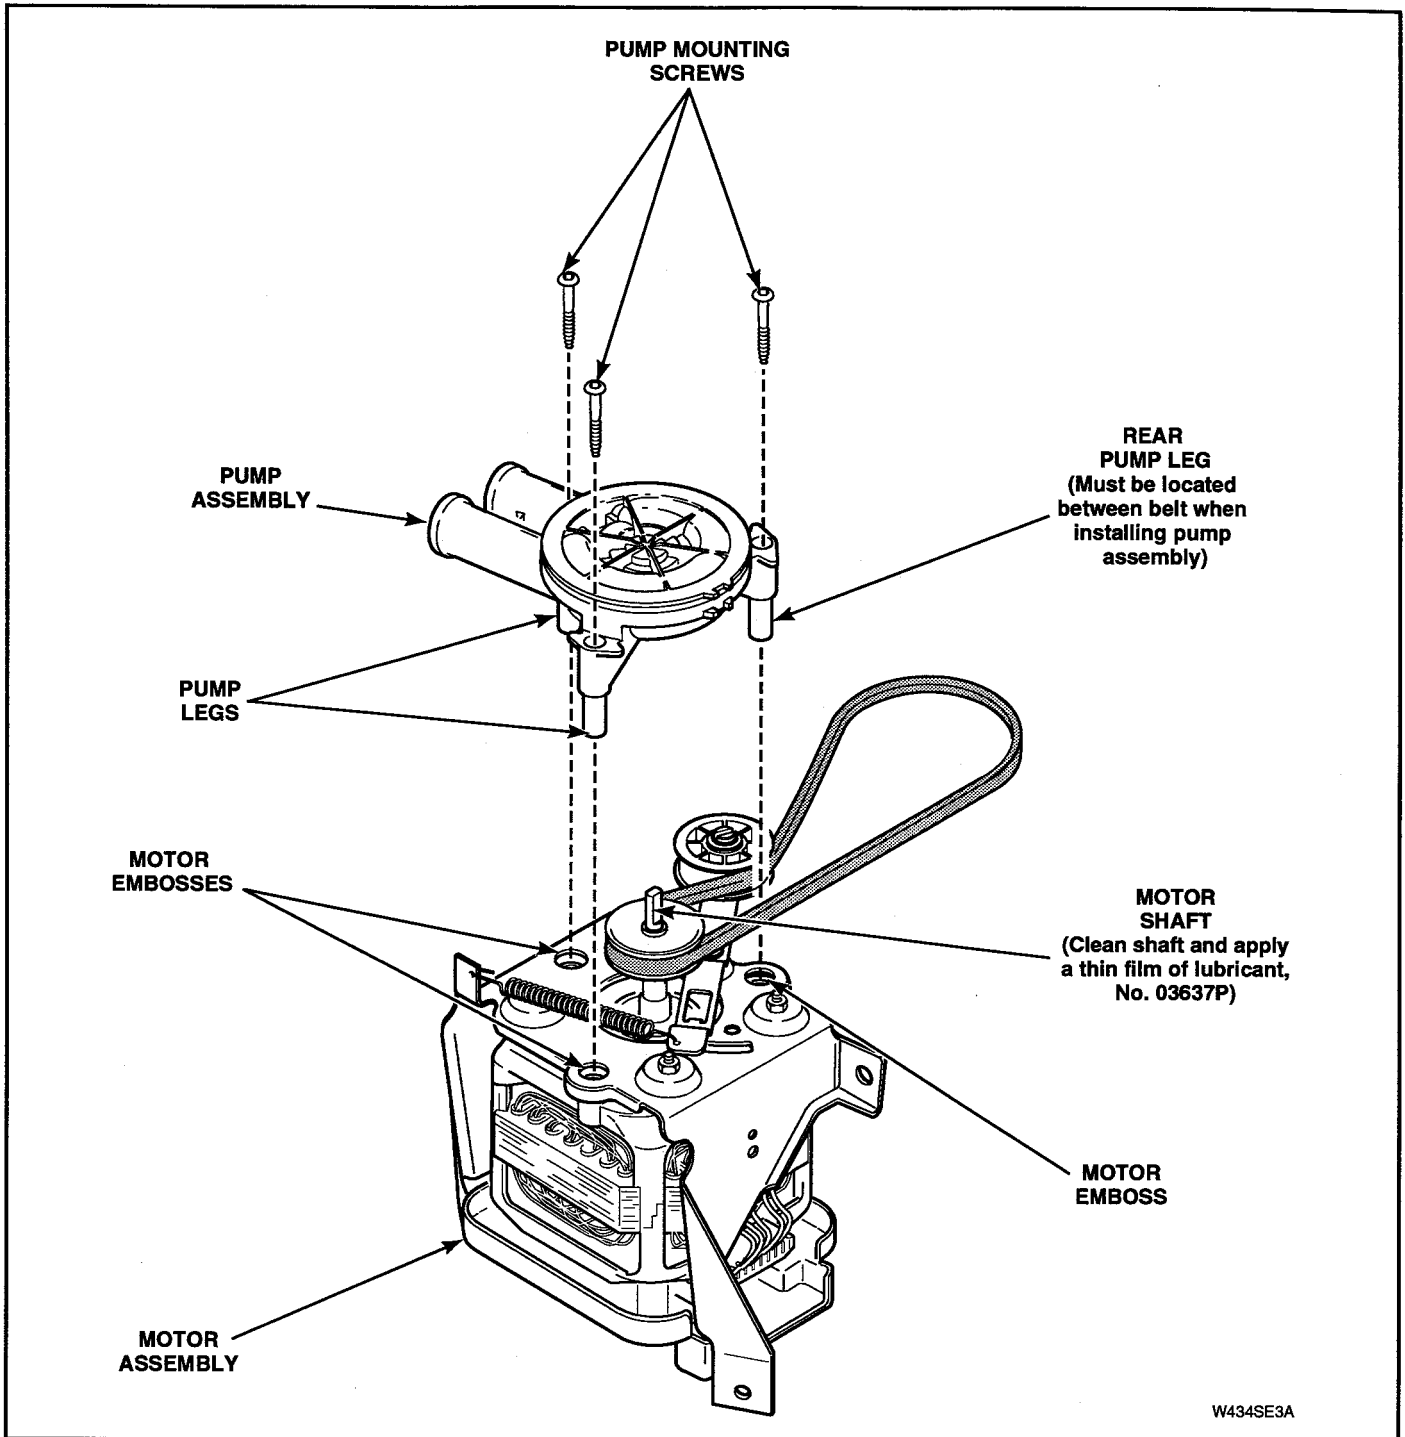

Figure 5-22
**IMPORTANT:** Carefully lay motor on its side. Observe belt configuration around rear pump leg. Belt **MUST** encircle rear pump leg when reassembling. See Figure 5-22.
- a. Remove three screws holding pump assembly to motor. See Figure 5-22.
- c. Align pump impeller hub with motor shaft. Make sure belt encircles rear pump leg, carefully push pump onto motor shaft so three pump legs bottom out in the embosses on motor housing before screws are tightened. See Figure 5-22.